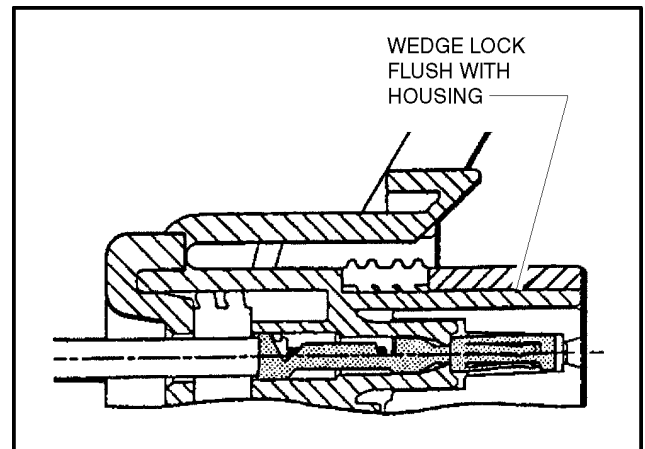

Figure 7-13. Connector Assembly Figure 4
4. Slide the wedge lock into the housing until it is flush with the housing (See Figure 7-13.).